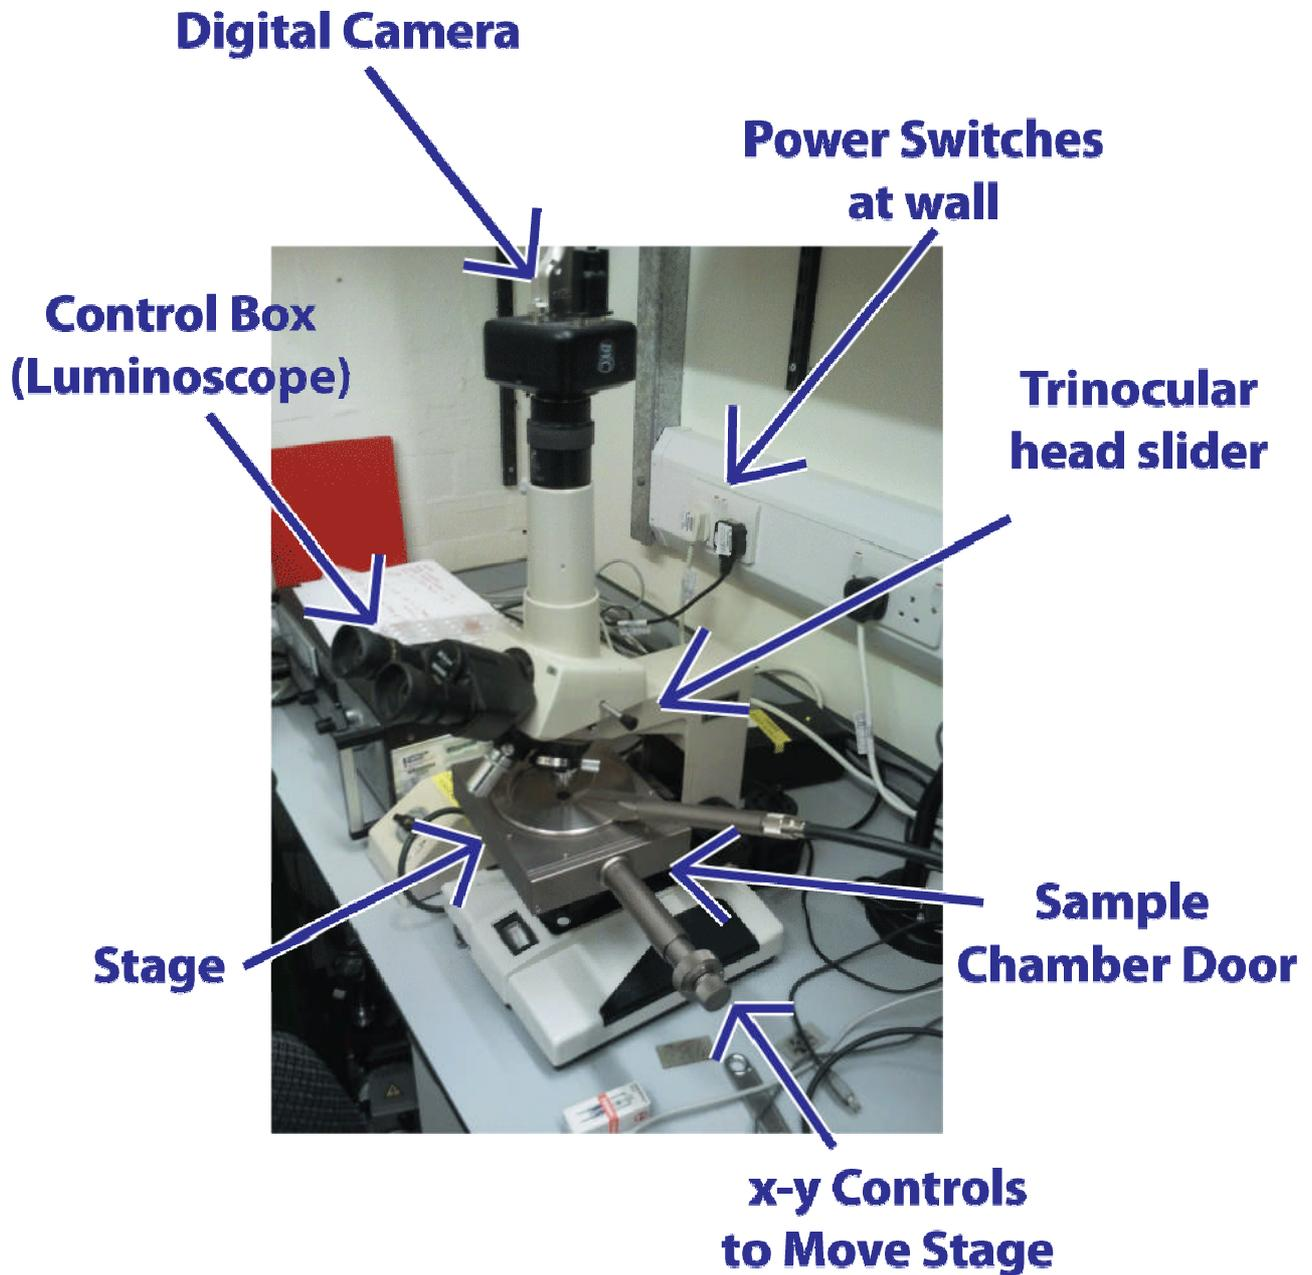

Figure 1: Overview of CL Petrography System.
4. Boot the Computer (138.251.88.68), click on the XCAP icon. Click on 'Live'. Pull the slider on the side of the trinocular head (Fig. 1) and you should see the ppl image of your slide.
10. Wait for vacuum to start to respond (vacuum gauge, Fig. 1)
Slider: The microscope has a trinocular head with a beam splitter to pass the light either all to the eyepieces or to split it between the camera and the eyepieces. If you look in the eyepieces and pull the slider out, you should see the image darken. When the slider is out (Fig. 1), light is passed between the eyepieces and the camera. If the slider is in, all light goes to the eyepieces and the camera gives a blank live image.